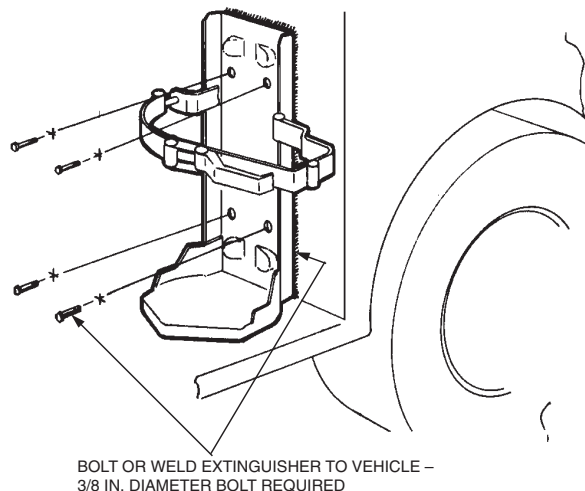

FIGURE 3
1. Remove the agent tank from the bracket and weld the bracket to the mounted surface. The bracket can be secured at the base, at the back, or both, depending on the mounting surface. If the bracket cannot be welded, bolting is acceptable. 7/16 in. mounting holes are provided in the bracket to accommodate 3/8 in. fasteners. See Figure 3. Make certain when mounting the bracket that the clamp arms can swing open wide enough for removal of the tank when required.